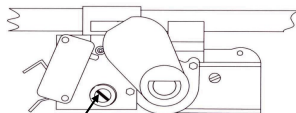

Fig. 5
5. Once the pilot is lit, locate the pilot adjustment screw on the lower left hand side of the oven thermostat control. See Fig. 5. Access the pilot adjustment screw through the opening behind the oven temperature control knob. With a straight blade screwdriver rotate the screw till the outer tip of the flame is just barely reaching the underside of the end of the flame safety probe. See Fig. 6.